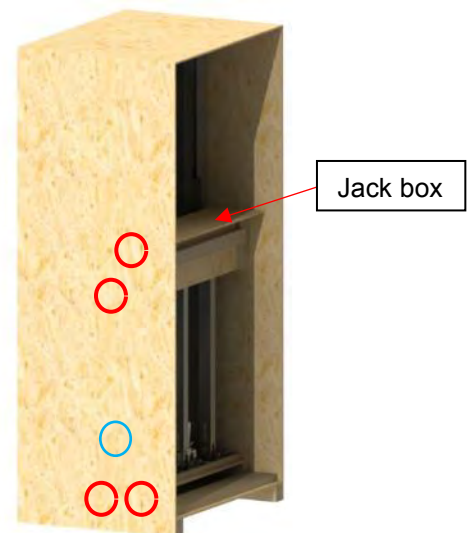

Figure 37
- 10) Unscrew the Robertson #8-10 x 1.5 in. screws holding the jack box – four screws per side: two screws at the top, two screws at the bottom. The blue circle represents the screw holding the crate, the jack box and the binding blocks. This screw is only on the left side of the crate. Unscrew it as well. (Figure 37)